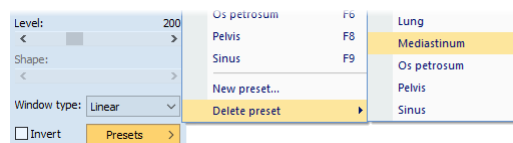

Figure 160 – Deleting a window/level preset
3. Select the preset you want to remove in the displayed submenu list (see Figure 160).